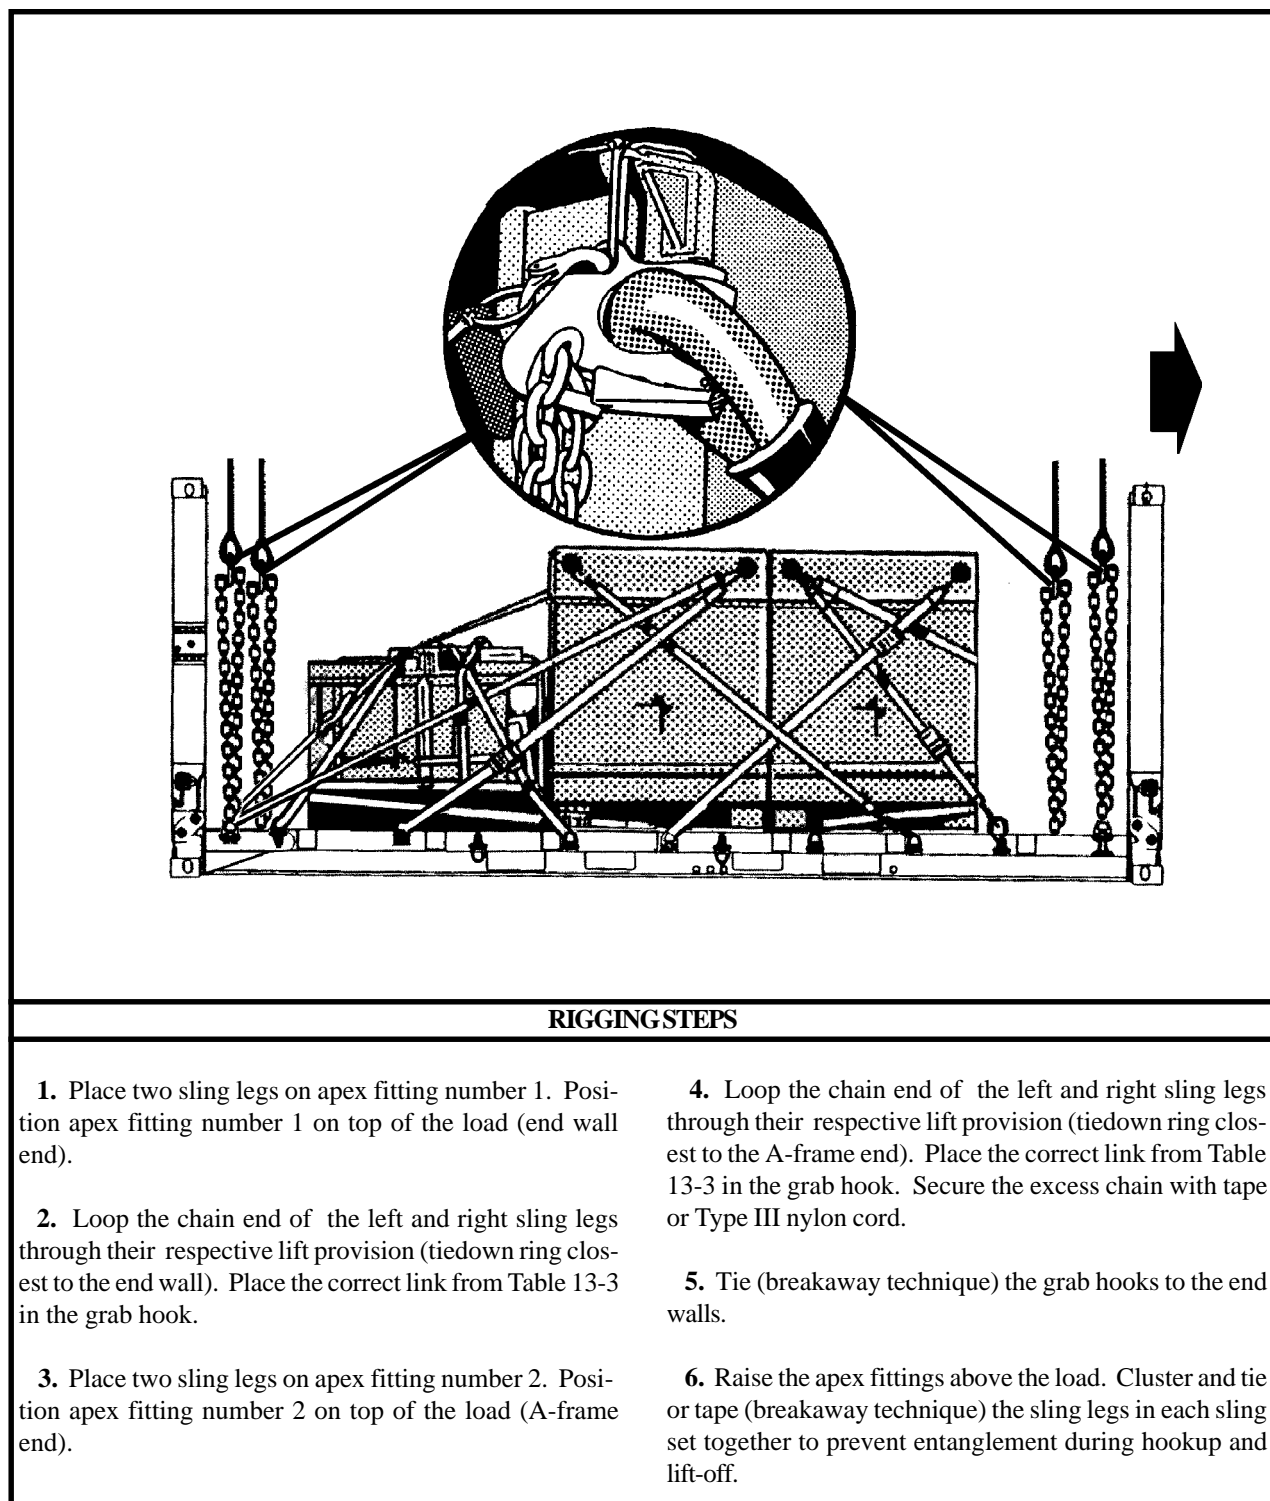

Figure 13-3. Enhanced Palletized Loading System, Flatrack, Loaded
(2) **Rigging.** Rig the load according to the steps in Figure 13-3.